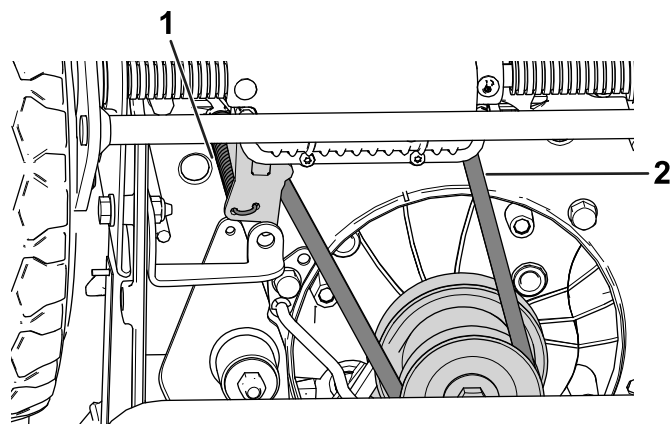

Figure 20
14. Install the transmission belt and the transmission tension spring (Figure 20).